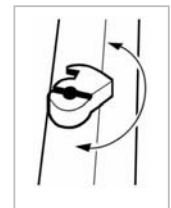

Fig. 1
- Using a screwdriver, turn the latch in a clockwise direction to unlatch the bracket, then remove it from the appliance (see Fig.1)